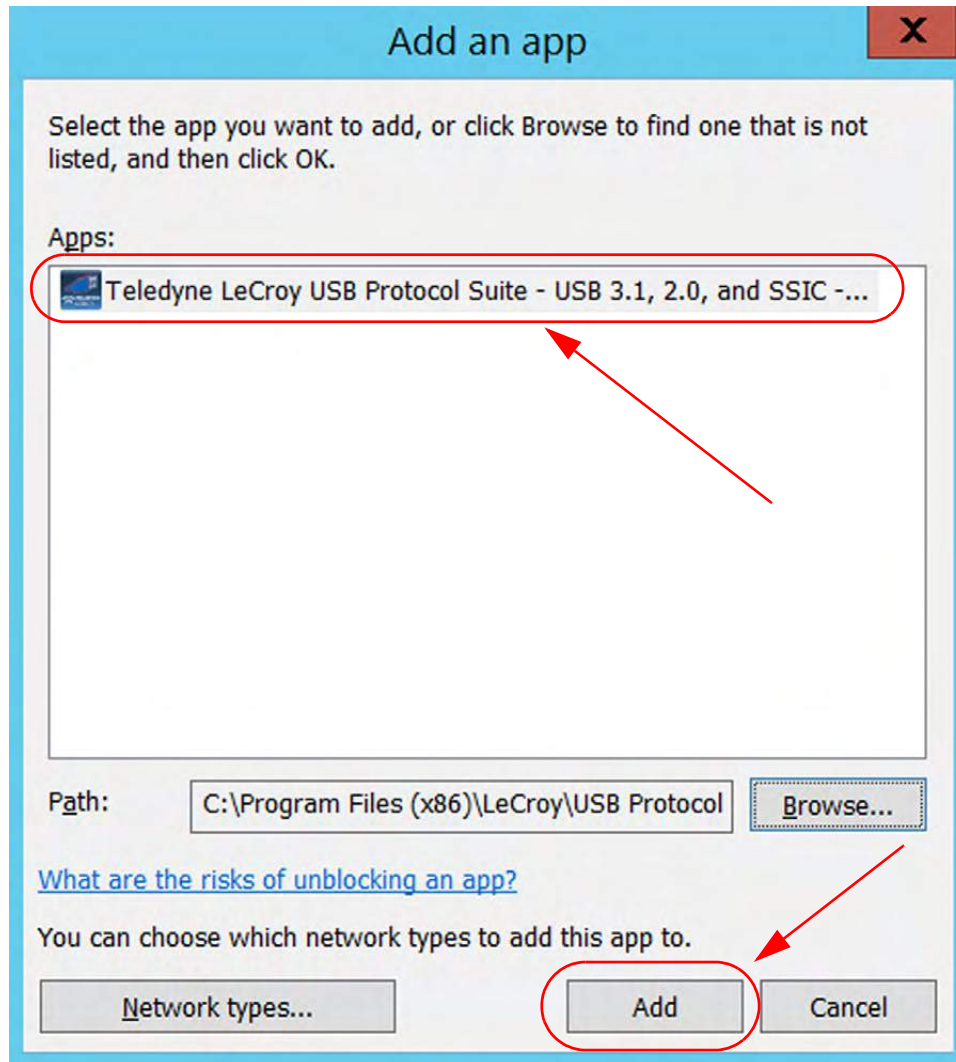

Figure 3.8: Windows Server 2012: Add an Application to the Firewall Exceptions
9. If necessary, select the Teledyne LeCroy USB Protocol Suite you want to add. Then click on "ADD", this will add the Teledyne LeCroy USB Protocol Suite software to the Apps allowed through the Firewall. See Figure 3.8.